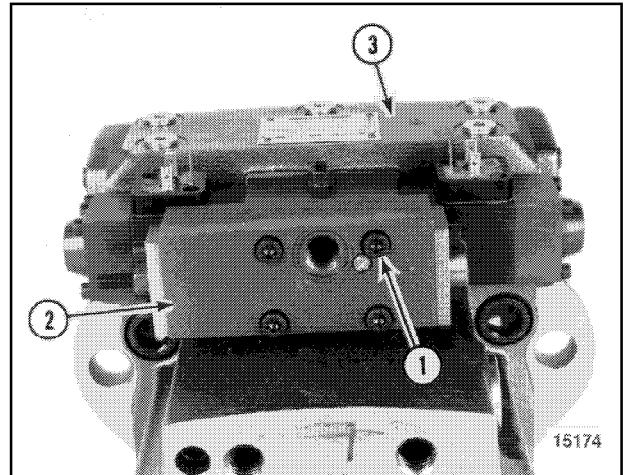

Figure 40
43. Remove four screws (1, Figure 40) and remove control unit (2) from spindle housing (3).
44. Look into spindle housing (3) through hole that control unit (2) was removed from, and through large opening in pump housing. Note shape and orientation of grooves in center of spindle for aid in reassembly.